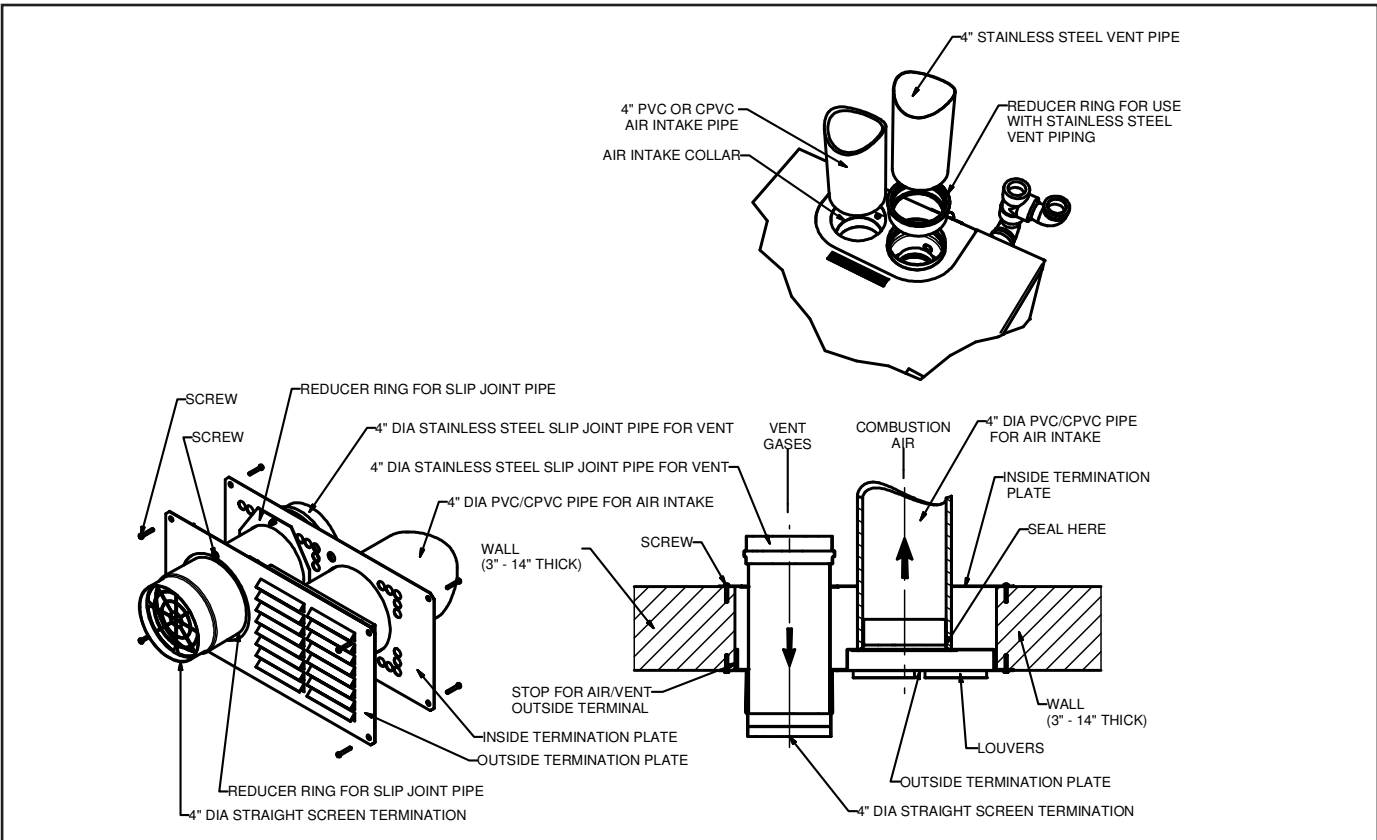

Figure 12b. Vent/Air intake termination; utilizing stainless steel venting materials.
2. Refer to Figure 12b for installation details.
6. Install the reducing rings on the inner facing side of the outside and inside termination plates (see figure 12b).